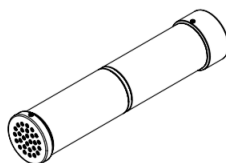

Figure 1 - Test Object
2. **Test Object** (A test fixture with a known impedance that is used to verify the factory calibration of the device) (Figure 1)